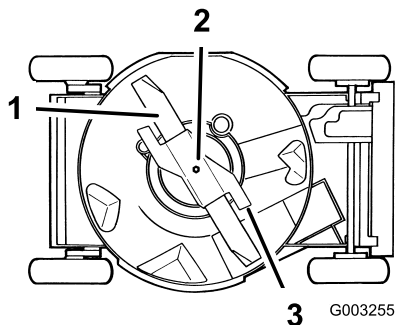

Figure 29
4. Tip the mower onto its **right** side (Figure 29).
Grasp the end of the blade using a rag or a thickly padded glove. Remove the blade bolt, the lock washer, the accelerator, and the blade (Figure 29).